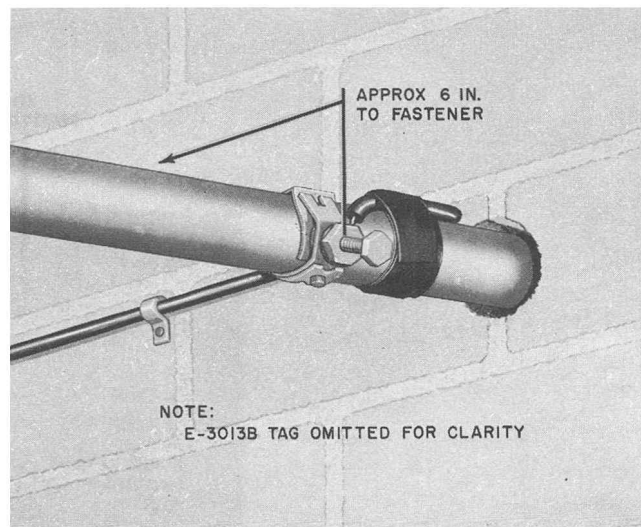

Fig. 23—Typical Ground Clamp Installation
4.03 The ground clamp should be located at an accessible point where it will not be subject to excessive movement or vibration and where it will least likely be damaged by plumbers or other workmen. If the pipe is insecure or subject to vibrations, tape the ground wire to the pipe in close proximity to the ground clamp (Fig. 23).